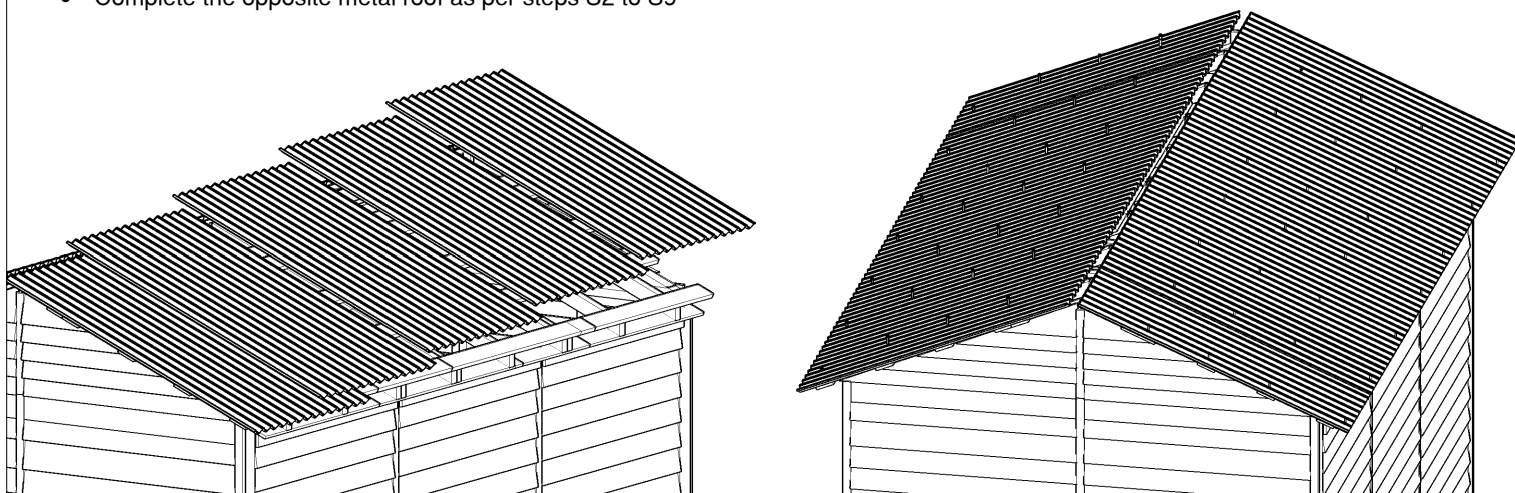

FIGURE S10
- Using the 1-1/2" Metal Screws and 3/8" Nut Drivers, secure the outside of the Metal Roof Panel down to each Batten. The Metal Screw is self-tapping. Do not overtighten! Screw through the valley of the Metal Roof Panel and not the peak. Figure S10